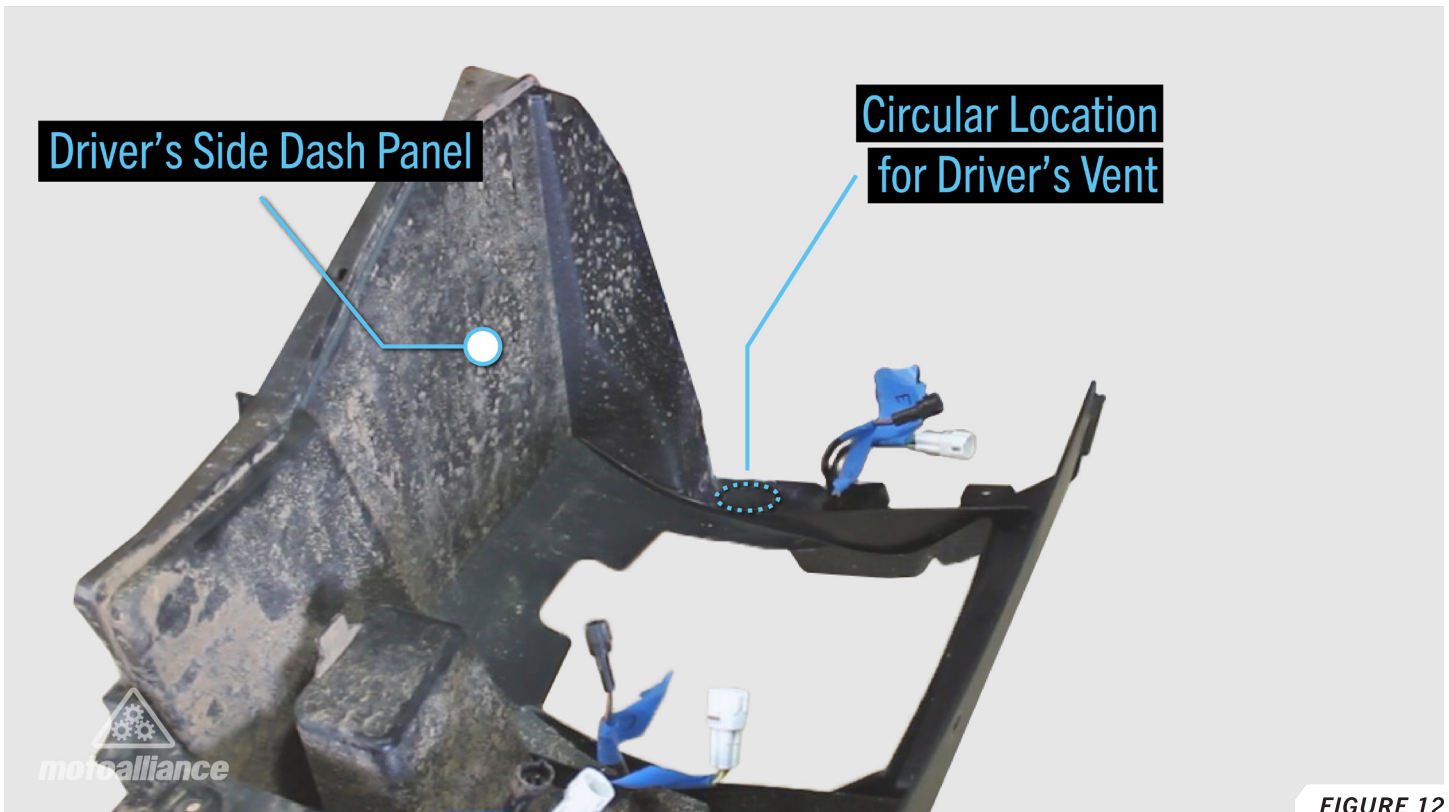

FIGURE 12
27. Take the driver side dash panel and find the circular location for the driver's vent. Mark the center of the circle. **FIGURE 12**
28. Take the 2" hole saw and drill through the driver side dash panel to make a hole for the driver side vent. Clean up any burs from around the hole, then insert the driver's side 2" vent into the hole. **FIGURE 12**